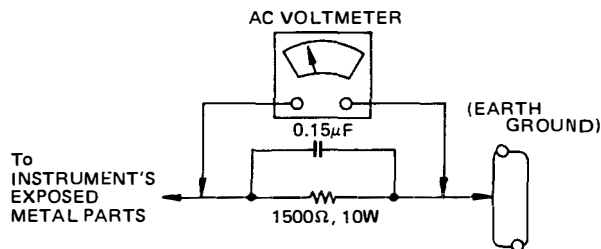

Fig. 1
- 1-5-2 Connect a 1500 ohm, 10 watt resistor, paralleled by a 0.15μF capacitor between each exposed metallic part and good earth ground (as shown in Fig. 1).